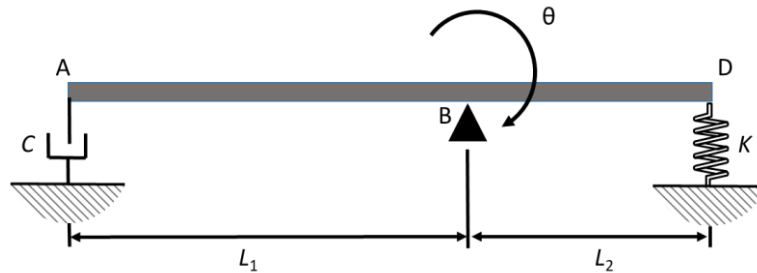

FIGURE Q3.1
3. Figure Q3.1 shows a rigid beam AD with moment of inertia I_o about the pivot at point B. The beam is supported at D by a vertical spring having stiffness k and at A by a damper having damping coefficient c . θ denotes the angular displacement of the beam about the horizontal equilibrium state and is assumed positive in the clockwise direction as shown. All displacements and rotations in this system are assumed to be small.